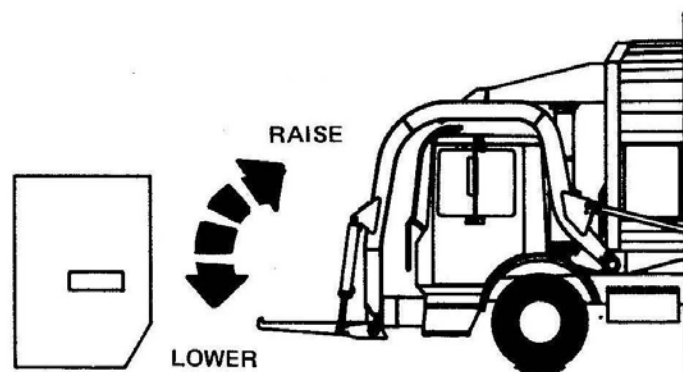

Figure 41. Rotate Forks to Horizontal Position
5. Use the fork control and ROTATE the forks to a horizontal position then RELEASE the control. See Figure 41.